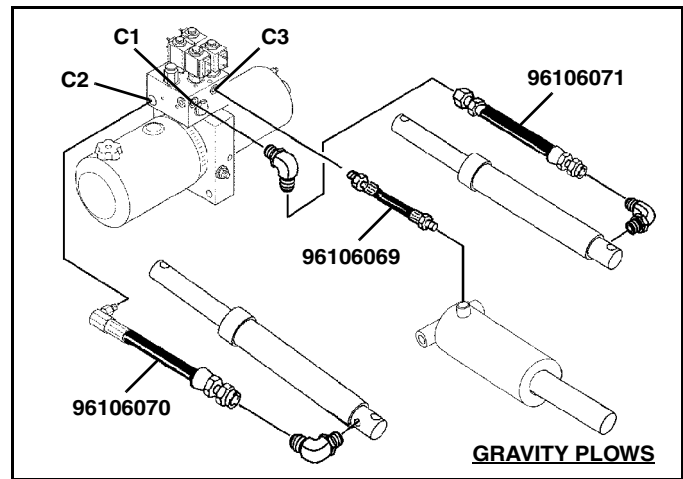
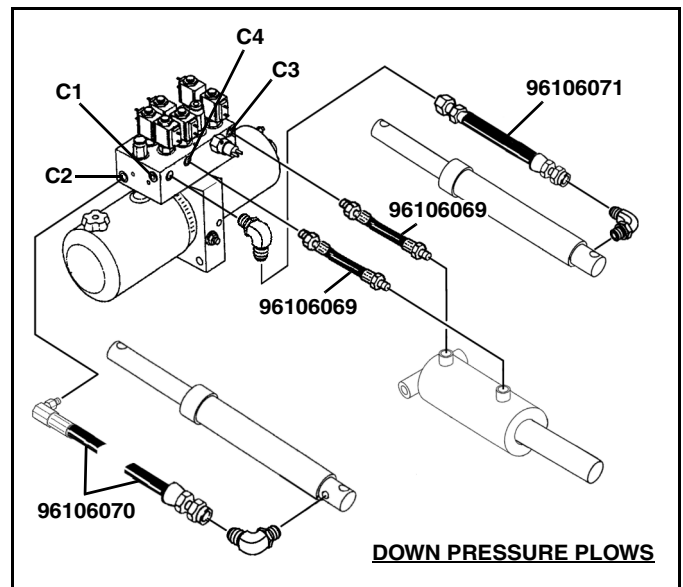
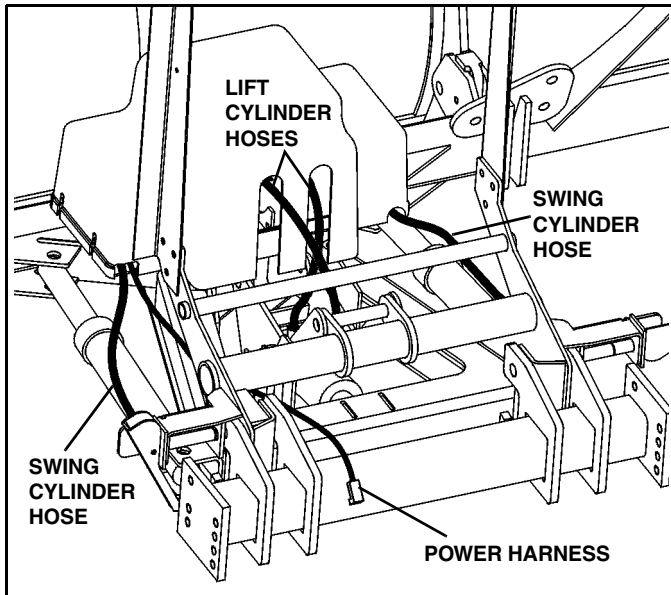

Figure 1-15a
Figure 1-15b
Figure 1-16
30. Install hydraulic hoses per fig. 1-15a for gravity plows and fig. 1-15b for plows with down pressure. Hose part numbers are printed on hose. Hoses should be routed through holes in pump cover. (See Figure 1-16).